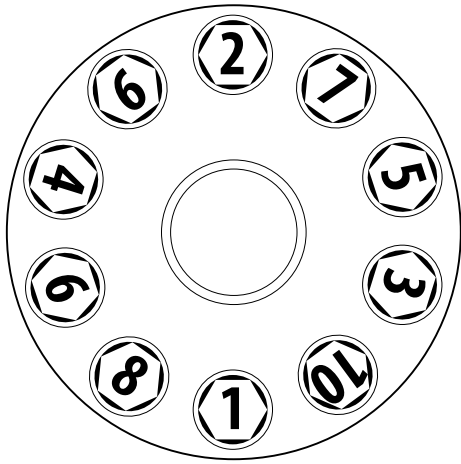

Figure 9A
1. Mount both wheels and snug up nuts in sequence shown (Figure 9A & 9B).